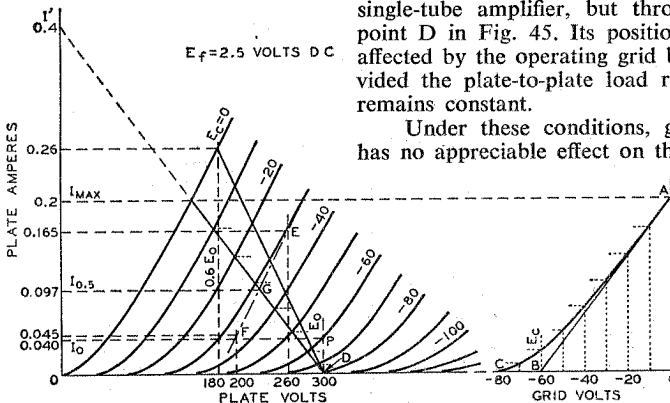

Fig. 45—Graphic calculations for class AB1 amplifier using a power triode. Fig. 46—Instantaneous curve for class AB1 amplifier.
In class AB1 push-pull amplifier service using triodes, the operating conditions may be determined graphically by means of the plate family if  $E_o$ , the desired operating plate voltage, is given. In this service, the dynamic load line does not pass through the operating point P as in the case of the single-tube amplifier, but through the point D in Fig. 45. Its position is not affected by the operating grid bias provided the plate-to-plate load resistance remains constant.
In general, for any load line through point D, Fig. 45, the plate-to-plate load resistance in ohms of a push-pull amplifier is  $R_{pp} = 4E_o/I'$ , where  $I'$  is the plate-current value in amperes at which the load line as projected intersects the plate-current axis, and  $E_o$  is in volts. This formula is another form of the one given under push-pull class A amplifiers,  $R_{pp} = 4(E_o - 0.6E_o)/I_{max}$ , but is more general. Power output is  $(I_{max}/\sqrt{2})^2 \times R_{pp}/4$ , where  $I_{max}$  is the peak plate current at zero grid volts for the load chosen. This formula simplified is  $(I_{max})^2 \times R_{pp}/8$ . The maximum-signal average plate current is  $2I_{max}/\pi$  or  $0.636 I_{max}$ ; the maximum-signal average power input is  $0.636 I_{max} \times E_o$ .
**Example:** Fig. 45 illustrates the application of this method to a pair of power triodes operated at  $E_o = 300$  volts. Each tube has a plate-dissipation rating of 15 watts. The method is to
the plate family and the load line. Fig. 46 is a curve of instantaneous values of plate current and dc grid-bias voltages taken from Fig. 45. Values of grid bias are read from each of the grid-bias curves of Fig. 45 along the load line and are transferred to Fig. 46 to produce the curved line from A to C. A tangent to this curve, starting at A, is drawn to intersect the grid-voltage abscissa. The point of intersection, B, is the operating grid bias for fixed-bias operation. In the example, the bias is  $-60$  volts. Refer back to the plate family at the operating conditions of plate volts = 300 and grid bias =  $-60$  volts; the zero-signal plate current per tube is seen to be 0.04 ampere.
As in the case of the push-pull class A amplifier, the second-harmonic distortion in a class AB1 amplifier using triodes is very small and is largely canceled by virtue of the push-pull connection. Third-harmonic distortion, however, which may be larger than permissible, can be found by means of composite characteristic curves. A complete family of curves can be plotted, but for the present purpose only the one corresponding to a grid bias of one-half the peak grid-voltage swing is needed. In the example, the peak grid voltage per tube is 60 volts, and the half value is 30 volts. The composite curve, since it is nearly a straight line, can be constructed with only two points (see Fig. 45). These two points are obtained from deviations above and below the operating grid and plate voltages.
These steps provide points at 260 volts and 0.165 ampere (E), and at 200 volts and 0.045 ampere (F). A straight line through these points is the composite curve for a bias of  $-30$  volts, shown as a long-short dash line in Fig. 45. At the intersection of the composite curve and the load line, G, the instantaneous composite plate current at the point of one-half the peak signal swing is determined. This current value, designated  $I_{0.5}$  and the peak plate current,  $I_{max}$ , are used in the following formula to find the peak value of the third-harmonic component of plate current.